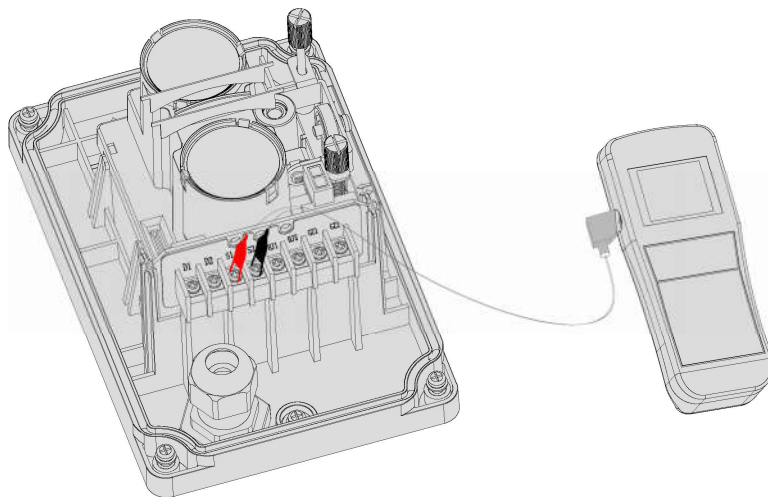

Figure 8: Programming connection Details
The TX7130 sensitivity and the operation range can be adjusted through hand held programmer on project site. The programmer can be purchased separately. It is mandatory for the commissioning personnel have programmer tool in order to adjust the detector according to the site situation and environmental requirement. Refer to Figure 8.
- b. Once you located the mark, loosen the M4x12 screw and adjust the horizontal or vertical adjustment wheel until the Laser beam mark at the center of the mirror. Refer to figure 8.